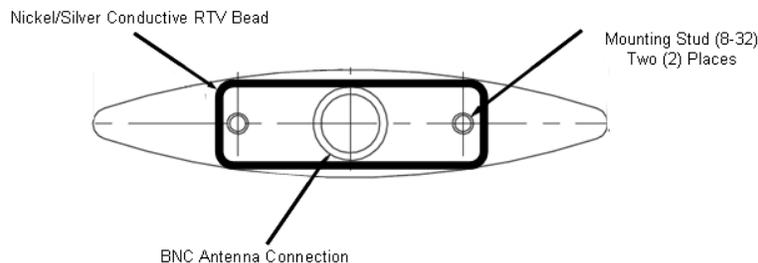

Figure 34-54 Transponder Antenna Conductive Sealant
8. Apply a bead of electrically conductive, MMS-040 Silver Coated Nickel Electrically Conductive RTV Silicone (Moreau Marketing & Sales, <http://www.rmoreau.com>) along the inner edge of the gelcoat/carbon interface, taking care to stay a safe distance from the antenna cable hole. The goal here is to apply just enough RTV to get good contact between the antenna base and the carbon, but not so much that the RTV creeps out from under the antenna base when installing the antenna. See Figure 34-54 for details of the location for the RTV sealant.